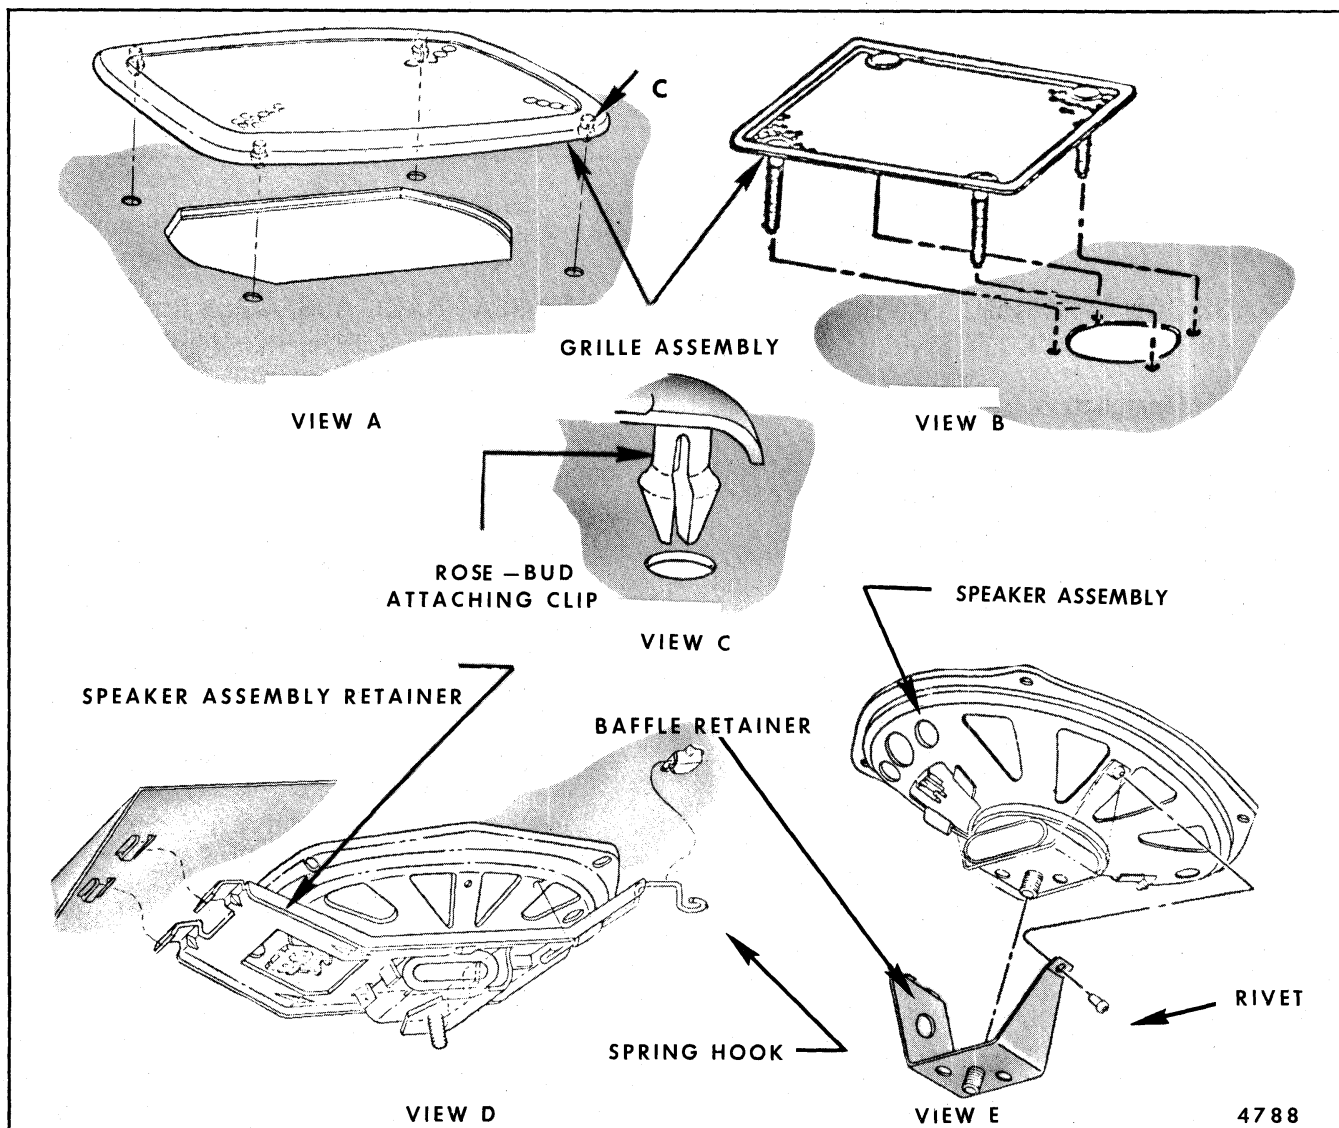
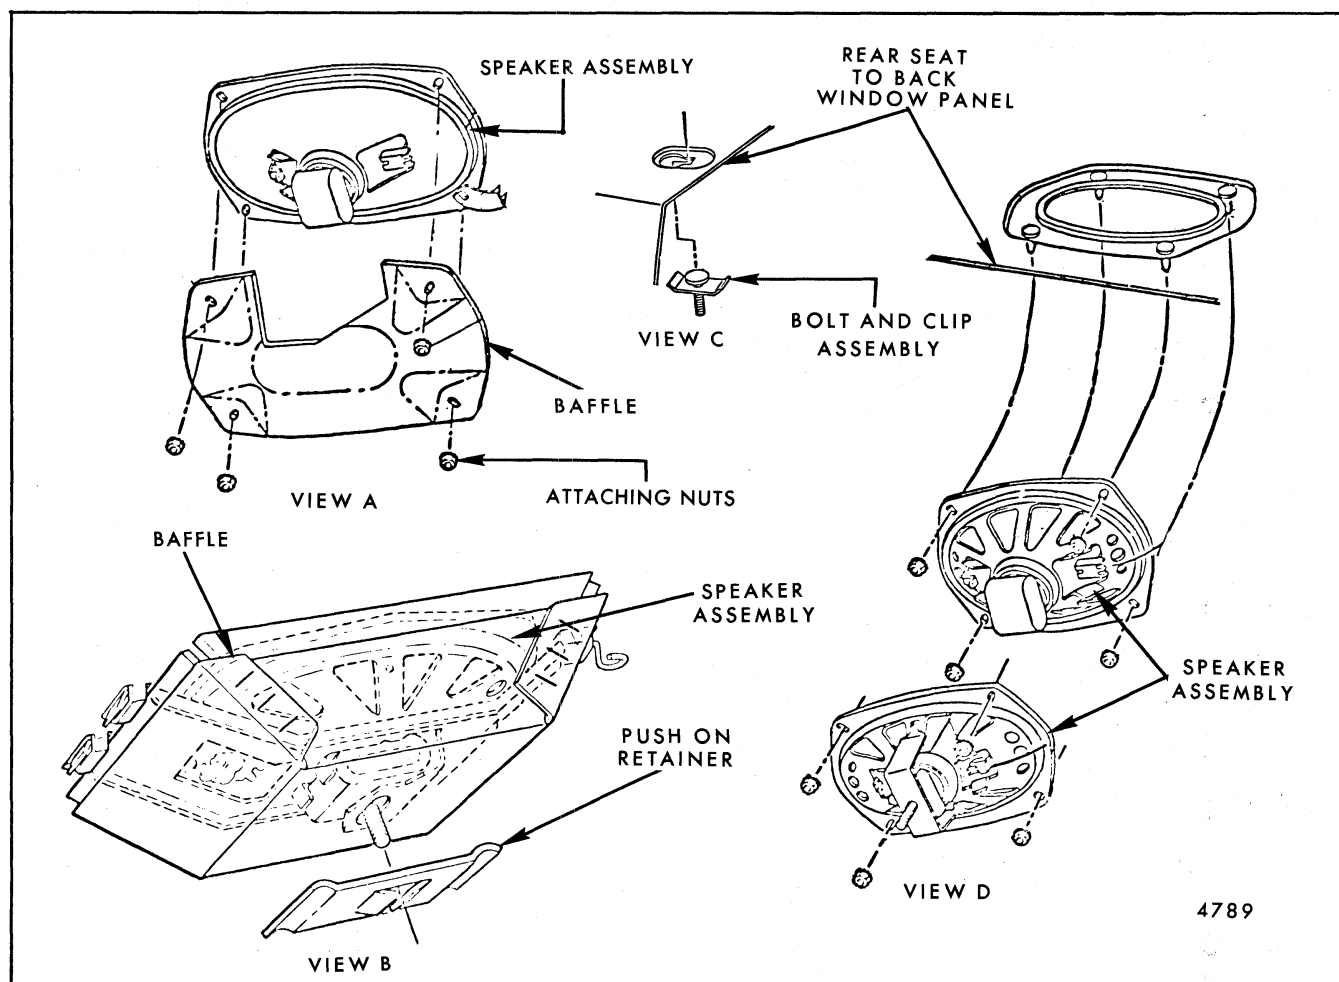
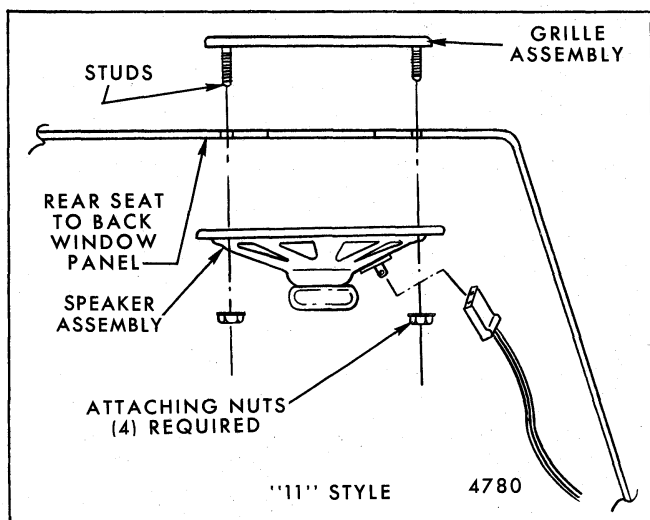

Fig. 9-78-Grille and Speaker Attachment
Fig. 9-79-Baffle and Speaker Attachment
Fig. 9-80-Rear Speaker - "11" Styles
If a non-perforated painted panel is used, the speaker is attached to a speaker grille assembly or retained by a one piece metal retainer (see Fig. 9-78, Views "B" and "D", and Fig. 9-80).
If a perforated vinyl coated panel is used the speaker is retained with either a metal retainer Figure 9-78, View "D" or a bolt and clip assembly Figure 9-79, View "C".
1. If speaker baffle (cover) is installed to speaker assembly, detach baffle by removing push-on retainer or attaching nuts (see Fig. 9-79, View "A" and "B").
NOTE: If replacing speaker remove baffle retainer as shown in Figure 9-78, View "D" and "E".
3. If not previously removed with baffle, remove four attaching nuts to separate speaker assembly from grille and lift grille assembly upward to complete removal (see Fig. 9-79).
4. On styles using metal retainer assembly to secure speaker to rear seat to back window panel Figure 9-78, View "D", disengage spring hook from tab at rear of panel and swing speaker assembly downward to remove.